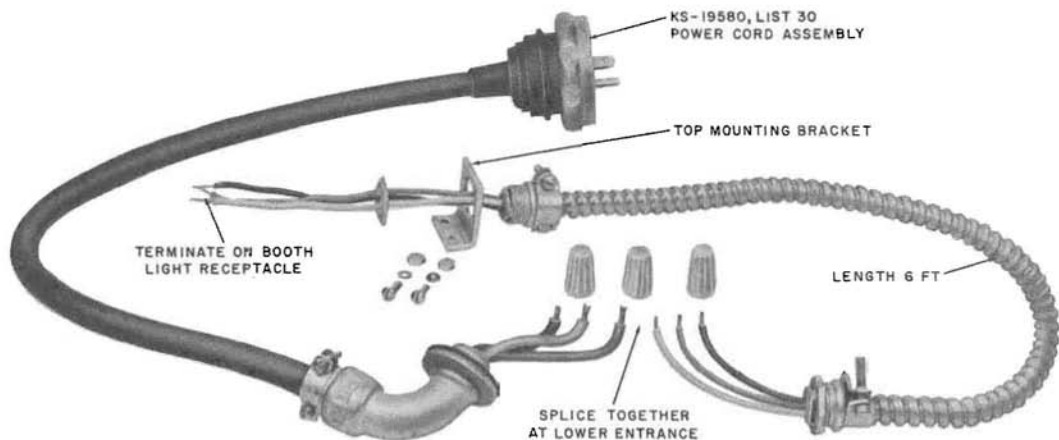

Fig. 13—KS-19580, List 31 Power Cord Group
- 2.26 KS-19580, List 31 power cord group (Fig. 13) is available for ground level power.